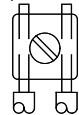

Figure 7
3. Break all in-out wire runs on supervised circuit supervision as shown in Figure 7. The polarity shown in the wiring diagrams is for the operation of the appliances. The polarity is reversed by the FACP during supervision.